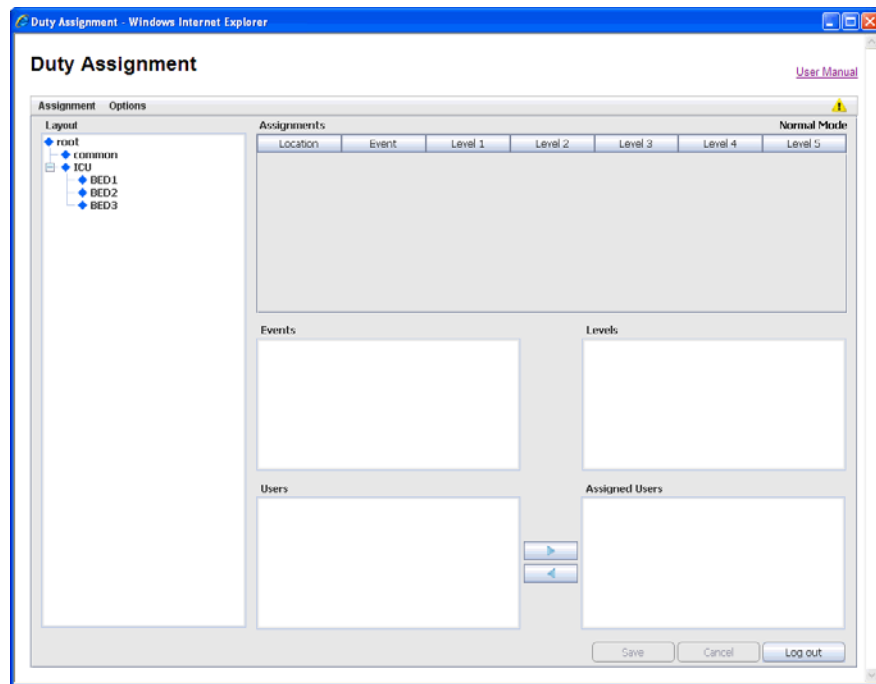

Figure 70. The Duty Assignment page is displayed with an example of a layout.
- 1 In the *Duty Assignment* window, click "Option", and select *Layout Setup*, see figure 70.